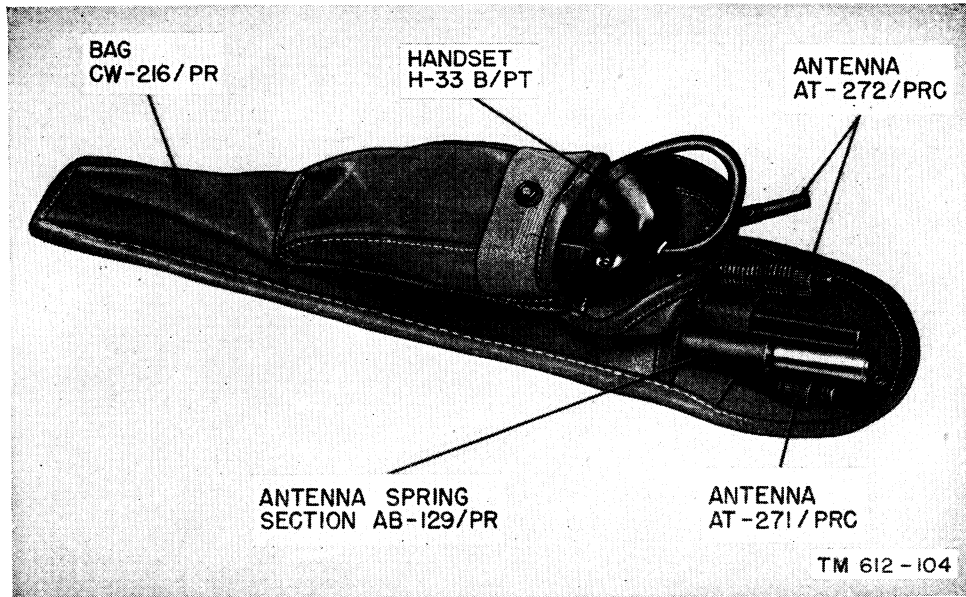

Figure 9. Bag CW-216/PR and accessories.
f. **BAG CW-216/PR** (fig. 9). The bag hangs from the operator's combat belt. It carries all the minor components or those not in use during oper-